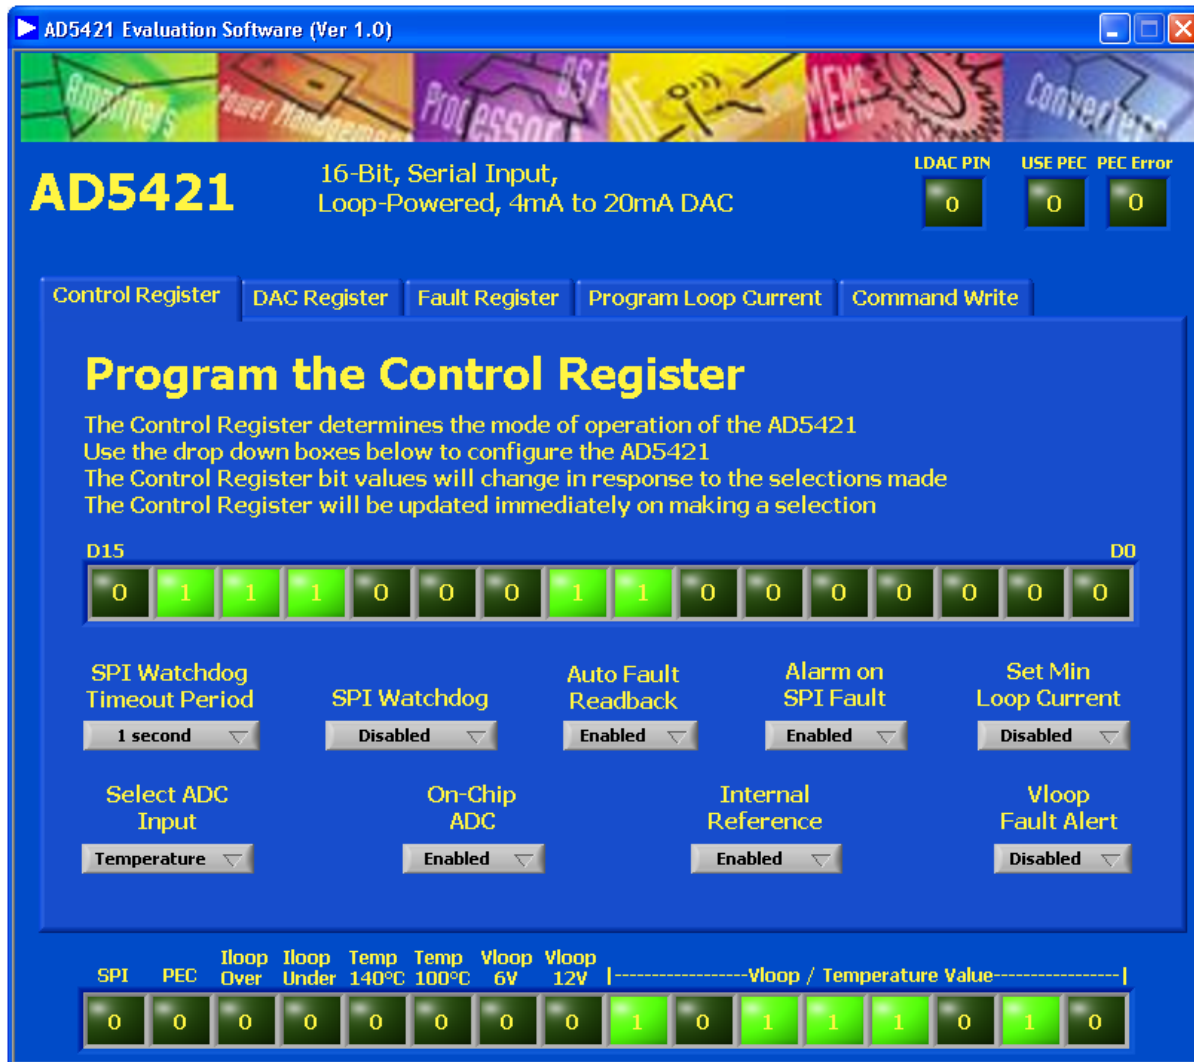

Figure 3. Main Window
1. From the **Start** menu, select **Analog Devices – AD5421**; then select **AD5421 Evaluation Software**. The main window of the software displays (see Figure 3).
As can be seen in Figure 3, the main window is made up of 5 tabs; **Control Register**, **DAC Register**, **Fault Register**, **Program Loop Current**, and **Command Write**. Outside of the tab structure at the top right of the window are two control items; **LDAC PIN** to set the state of the LDAC pin and **USE PEC** to select whether packet error checking is used in the communications with the **AD5421**. There is also an indicator item; **PEC Error**, this alerts to a packet error in the data received from the **AD5421**. At the bottom of the window is a display of the contents of the fault register, this is updated on every communication with the **AD5421** if **Auto Fault Readback** is enabled.